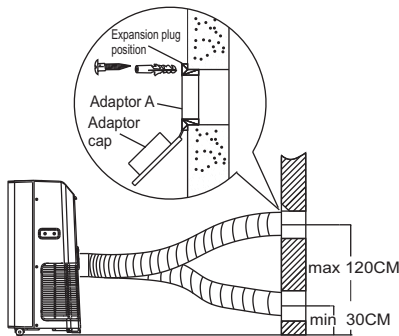

Fig.19
1. Prepare a hole in the wall. Install the wall Exhaust adaptor A onto the wall (outside) by using 4 expansion plugs and wooden screws, be sure to fix thoroughly. (See Fig.19)